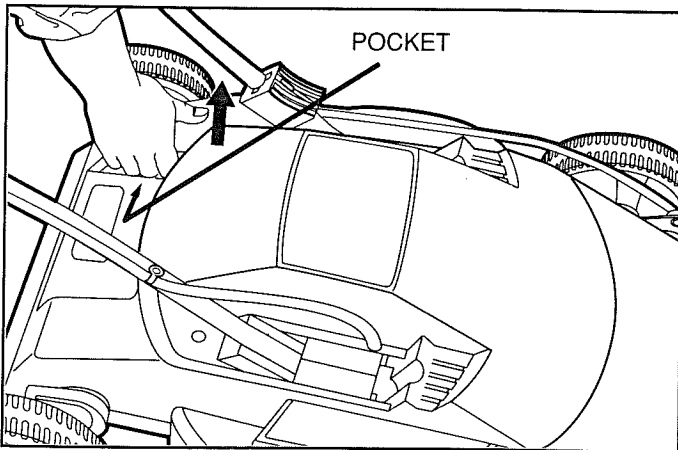

FIGURE 8
- Your mower features the Sears Single Lever Wheel Height Adjustment System. To raise or lower the cutting height, simply depress the lever (squeeze upward) located inside the pocket in the mower deck, as shown in Figure 8.